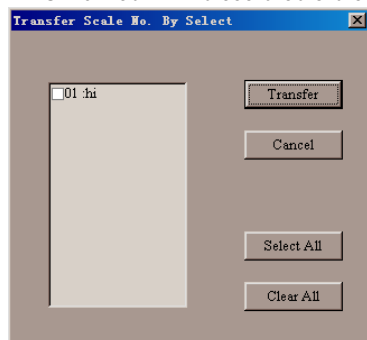

Fig. 6-5
- Click **OK** button and show dialog box as fig. 6-5.
- Select **SC-> PC** button in **TRANSFER DATA** menu, and will show the dialog box as fig. 6-5.